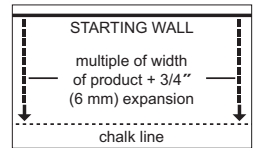

Figure 7
- In at least two places at least 18' (46 cm) from the corner, measure out equal distance from the starting wall (Figure 7) the face width of the starter board plus 1" (2.5 cm) (do not include the width of the tongue in this measurement. Mark these points and snap a chalk line through them. This measurement allows for the required 3/4" (19 mm) expansion and the width of the tongue.